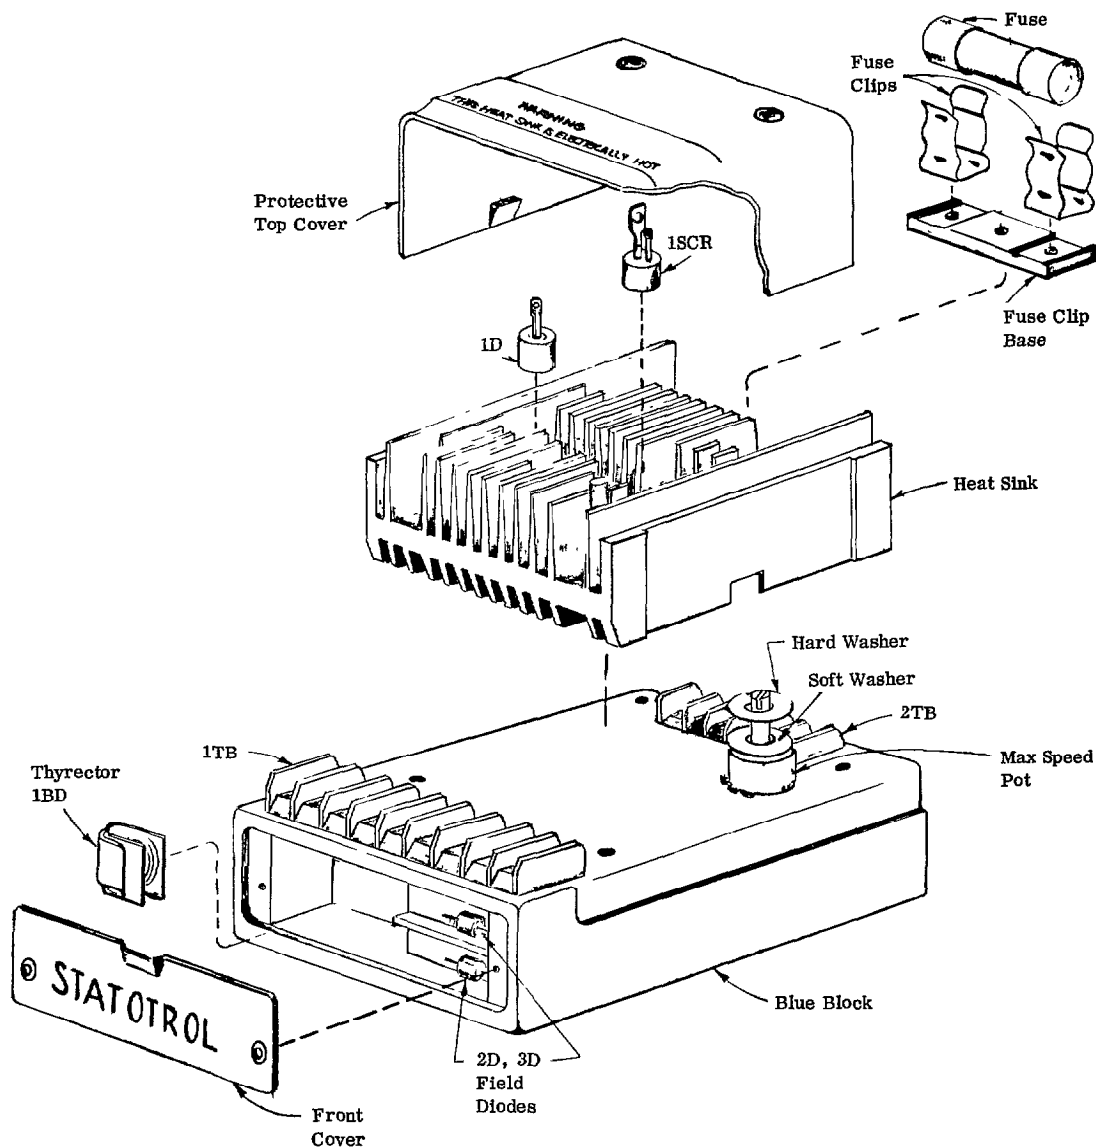

Figure 6
(DC) to drive the motor. Silicon rectifiers are used to supply constant field current and a silicon controlled rectifier is used to supply adjustable armature voltage. The control circuitry is encapsulated in an epoxy block, and is equipped with a special current limit circuit to limit surge current in the motor. Standard fuses and a current limit circuit provide rectifier protection. Figure 6 shows the assembly of the basic Statotrol controller while Figure 7 shows the connections on the controller.
**Step B.** If the voltage across the test points between circuits 102 and 122+ exceeds 4 to 6 volts, check connections on the wire between the component board and terminal 2 on terminal board 2TB of the potted module. Then, locate the maximum speed potentiometer which is mounted on the potted module (see Figure 6). Rotate the maximum speed potentiometer. If this controls the speed of the motor, replace the component board. If rotation of the maximum speed potentiometer does not control the speed of the motor, replace the potted module (see instructions below).
The components mounted on the blue block should be checked first since they can be replaced. These components consist of field rectifiers (2D, 3D), silicon controlled rectifier 1SCR, series rectifier (1D), Thyrector (1BD), and maximum speed potentiometer (2P). (See Figure 6 for location.)